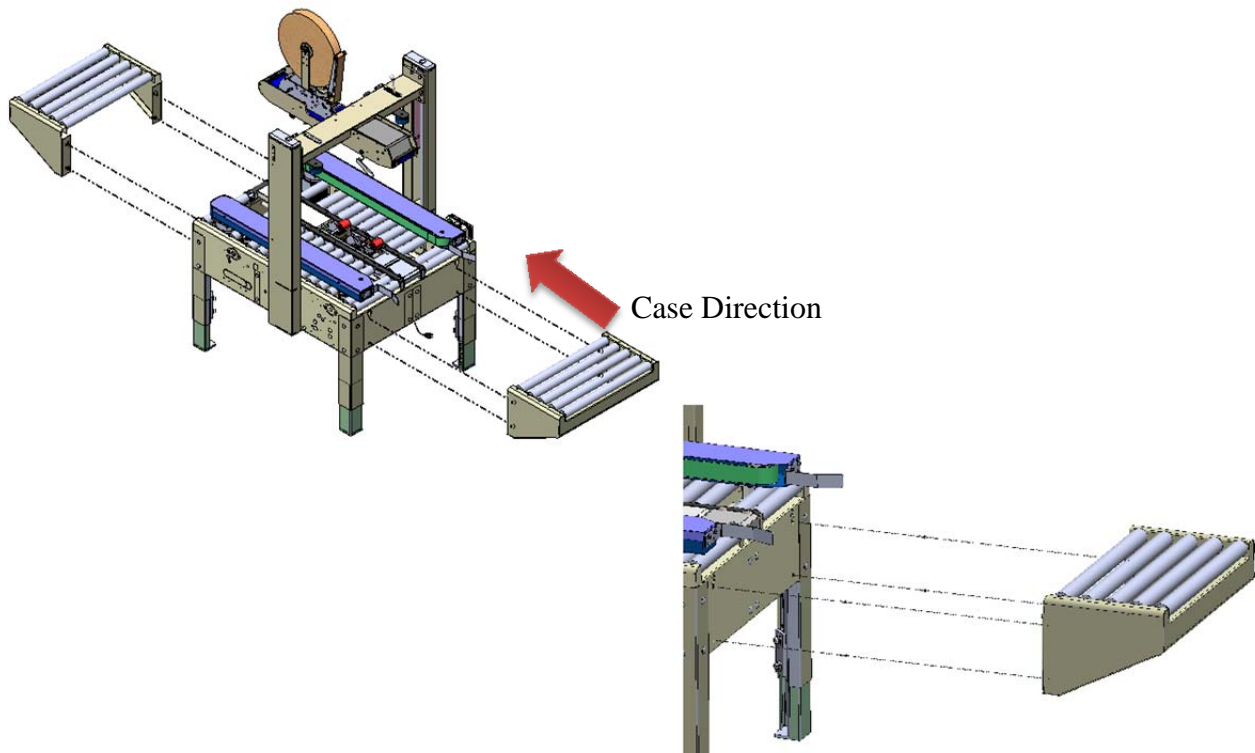

Figure-9
- Install Four (4) Mounting Studs Into Machine Base With Hardware Included With Roller Table. Per **Figure-9**.